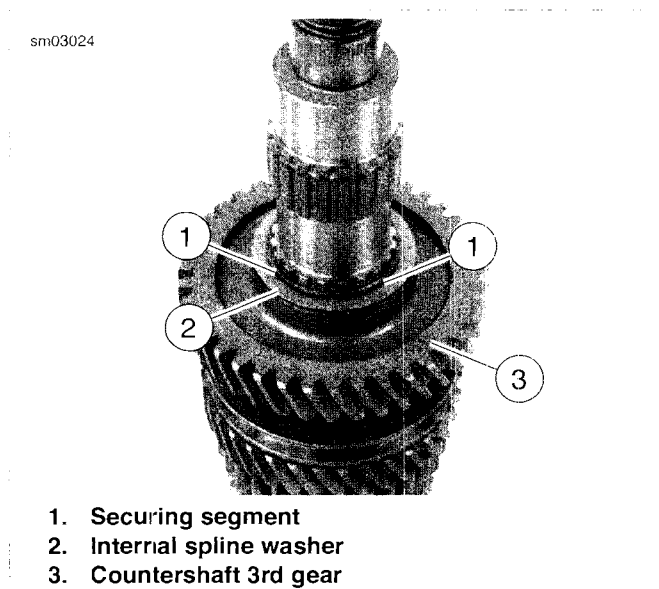

Figure 6-21. Countershaft Third Gear
7. See Figure 6-21. Remove securing segments (1), internal spline washer (2), countershaft 3rd gear (3) and bearing.
2. See Figure 6-21. Install **new** needle bearing, countershaft 3rd gear (3), internal spline washer (2) and securing segments (1).